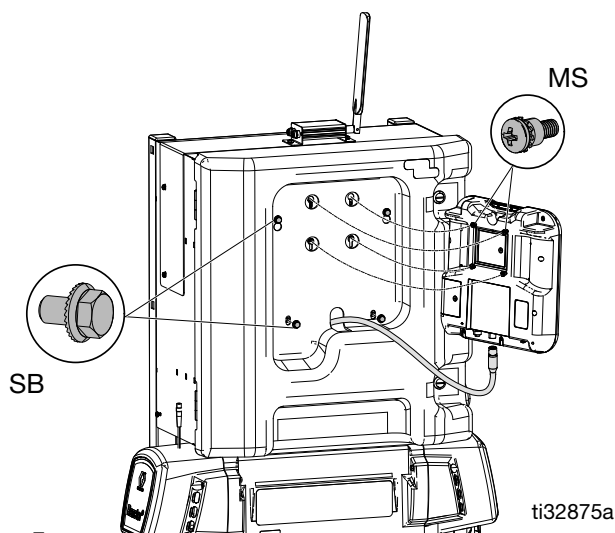

FIG. 5
9. Gently lower the ADM until it is hanging from the TCM CAN cable (FT). This exposes four shroud bolts (SB). See FIG. 5.
10. Remove the four bolts (SB) attaching the shroud to the Reactor frame. The door latches will hold the plastic shroud in place.
11. Slide the unattached end of the cellular module CAN cable (FC) through the grommet in the electrical cabinet door.